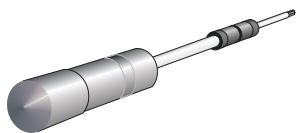

Figure 4 Torque tool and hex adapter
- **Torque tool with hexagonal adapter**—The torque tool with 5/32" hexagonal adapter (Figure 4), is required to remove and replace director logic cards.